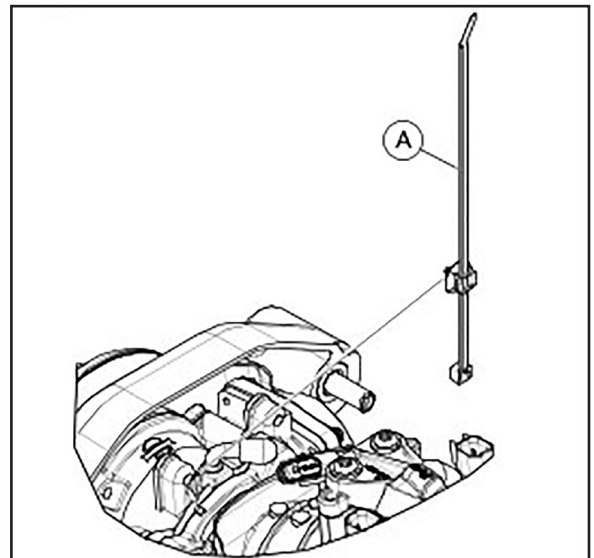

Figure 2. Cable Strap Air Cleaner Installation
3. See Figure 2. Secure throttle control wire to throttle body with supplied cable strap (A).